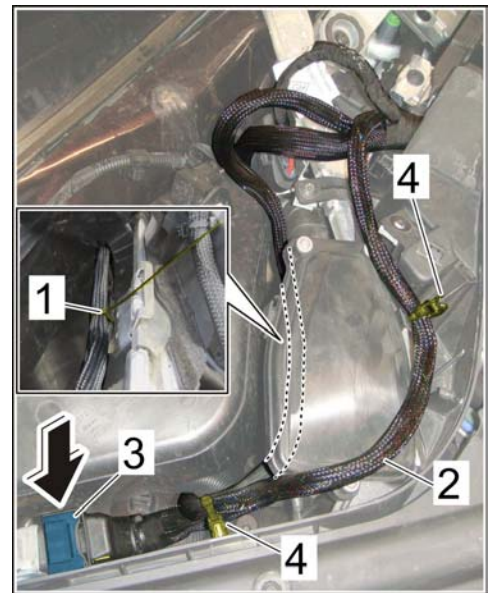

Figure 16
- 15.1 Route main wire harness under the relay carrier and secure it with a tie-wrap ⇒ *Figure 16 -1-*.
- 15.2 Plug in main wire harness connector ⇒ *Figure 16 -3-* on the DME control unit and close the latch ⇒ *Figure 16 -arrow-*.
- 15.3 Secure the main wire harness ⇒ *Figure 16 -2-* at the plenum panel with the two retaining clips ⇒ *Figure 16 -4-*.